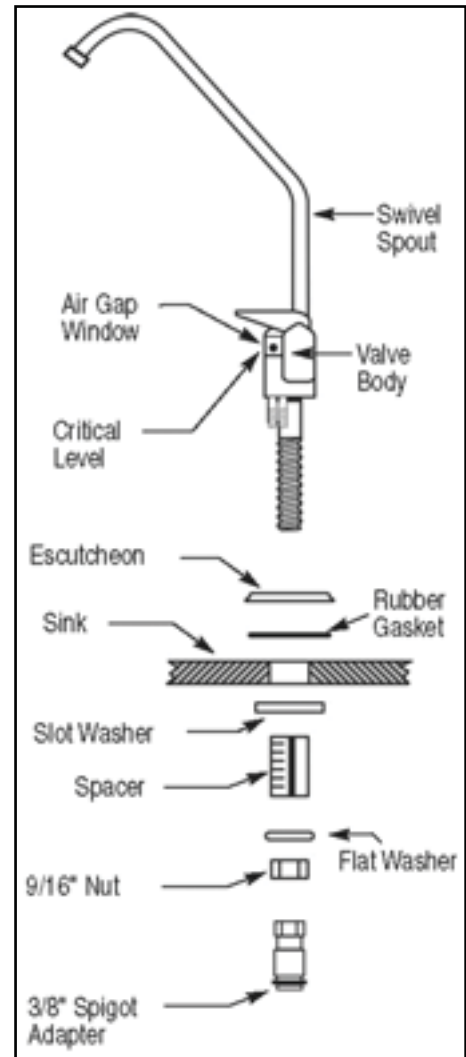

Figure 6: Air Gap Spigot Assembly
- A. Using the diagram in Figure 6, assemble the Air Gap Spigot with all the components except the slot washer. Begin with the escutcheon, followed by the rubber gasket, spacer, flat washer, 9/16-inch nut, and 3/8-inch spigot adapter.